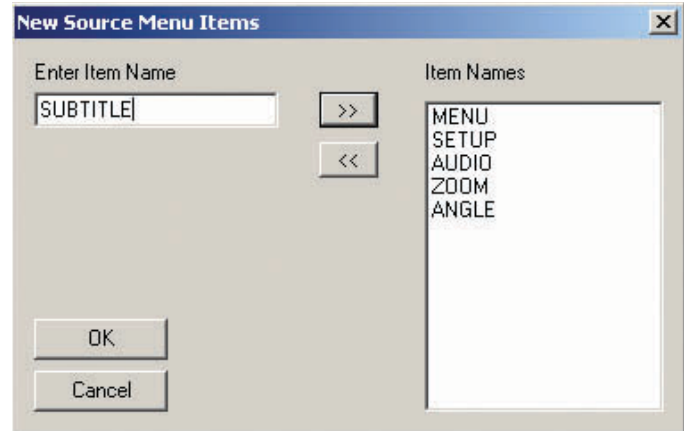

Figure 35
10. If adding **multiple Virtual Buttons**, right click inside the Virtual Button List Window, highlight and left click **Add Multiple New Menu Items**. In the New Source Menu Items Window, type in the first function name in the **Enter Item Name Block**. Either left click the **>> Button** or press the return key on the PC keyboard to add the function to the **Item Names List**. (Refer to **Figure 35**) To remove items from the 'Add New' list, highlight the entry and left click the **<< Button**. When all functions have been added to the Item Names List, left click **OK**. To remove items from the Virtual Button List, right click the item, then highlight and left click **Delete Item**.